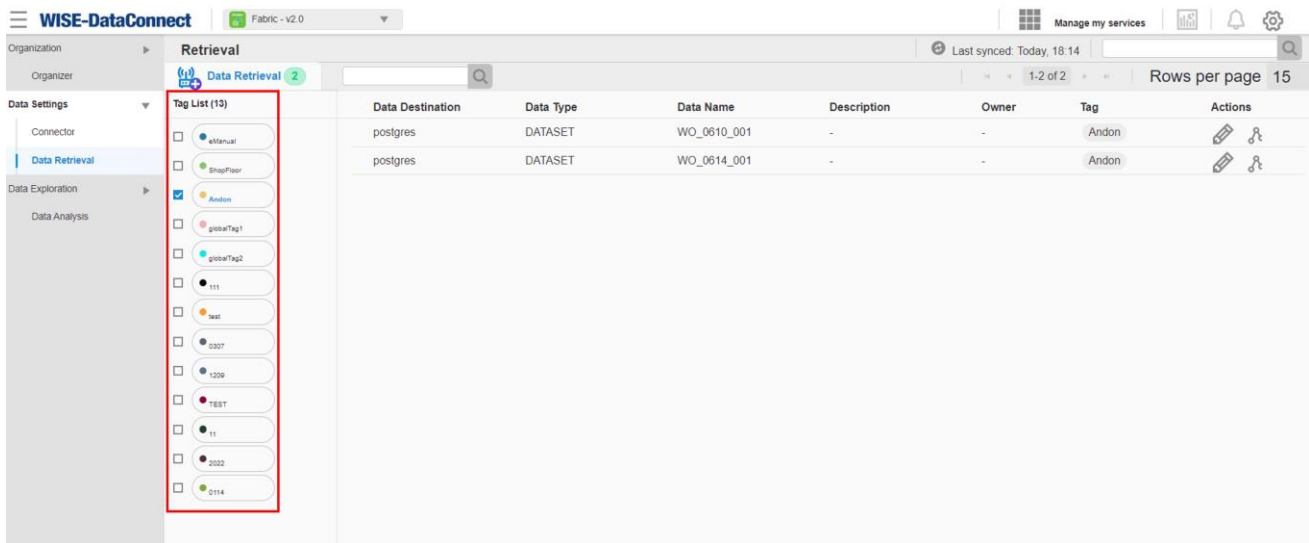

Figure 3-2 Tag list
- You can click the tag lists on the left-hand side to filter the data query shown as Figure 3-2.